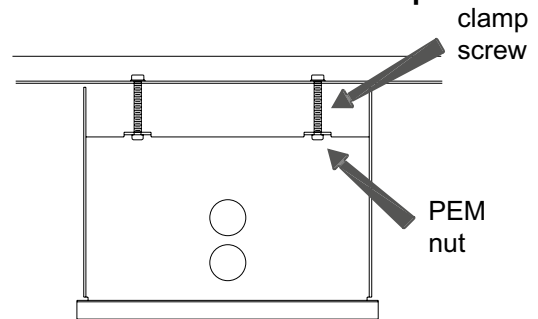

Figure 1A
2. Loosen 2 clamp screws on back of luminaire, so that no screw threads are showing past PEM nuts. See Figure 1A. Set mounting plate and gasket aside. **Note: Do not remove screws or clamp!**